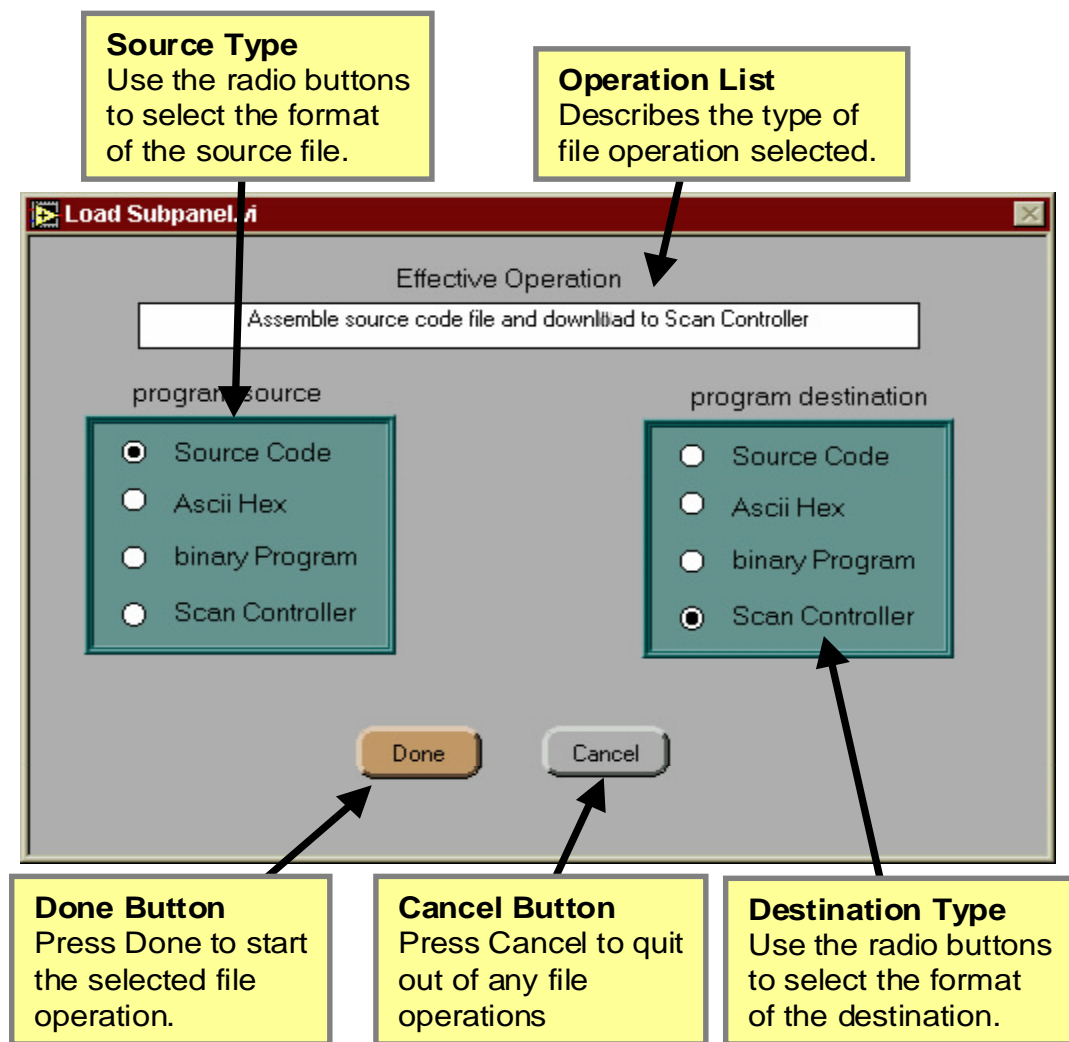

Figure 20 File Operation sub-window
This window (see Figure 20) provides an interface between the Scan Controller and files on the host computer and also operates as a translation utility for file formats and downloads of binary program listings from the Scan Controller.
2. **File Ops source code ⇒ Scan Controller:** This allows you to take an already created program stored on the host and load it to the user interface. The sine wave program created above has the listing shown below, and can be assembled and sent to the Scan Controller using the file ops window, shown in Figure 20.